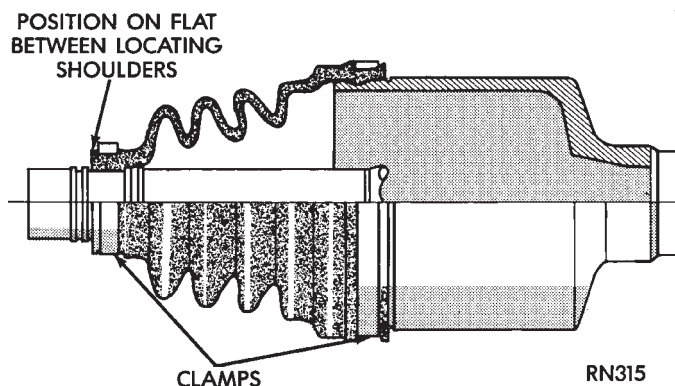

Fig. 16 Right Inner C/V Joint S.S.G.
- (1) Slide small boot clamp onto interconnecting shaft.
(2) Install boot onto interconnecting shaft, position boot on the flat between the locating shoulders (Fig. 16).
(3) Position clamp on boot and crimp bridge of clamp with Crimper Special Tool C-4124.